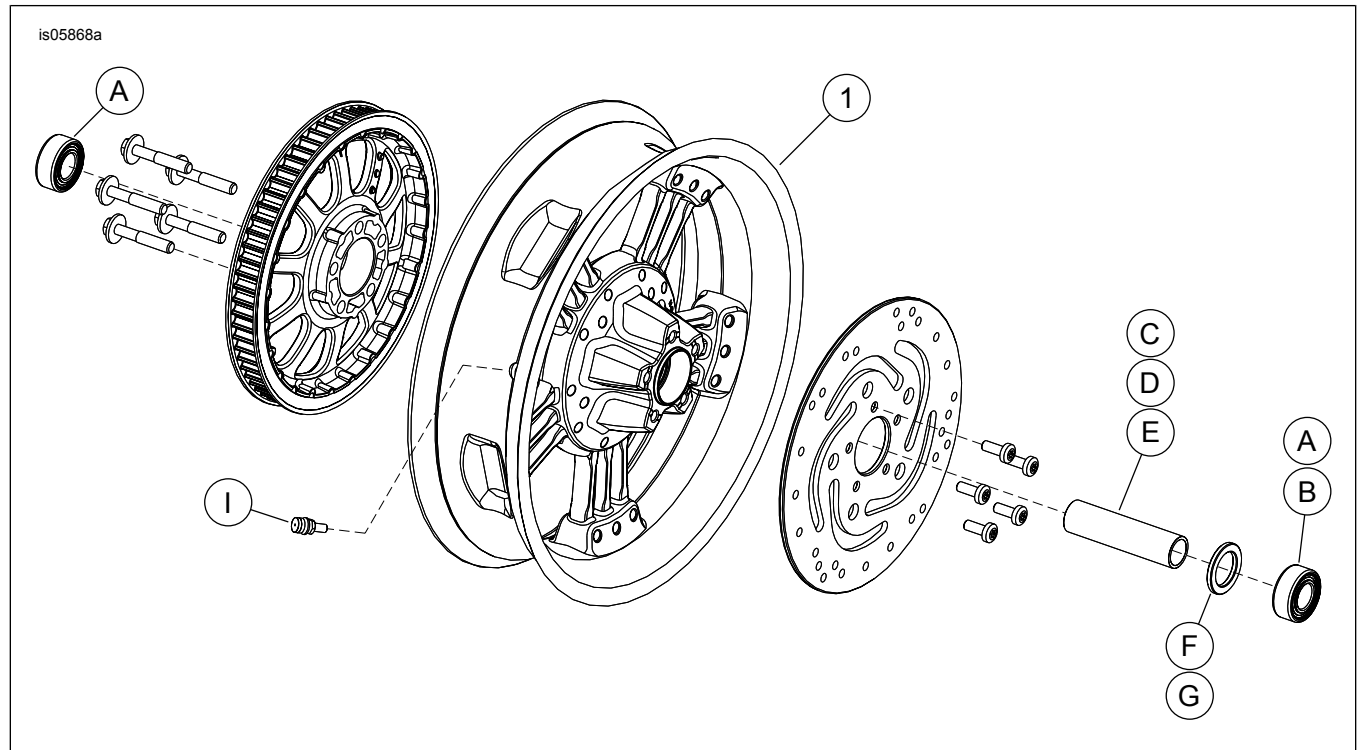

Figure 1. Service Parts: Rear Magnum 5 Wheel (17-inch shown)
These kits include the custom wheel only. See Figure 1. and Table 2.
2. See Figure 1. Install valve stem assembly (I) on wheel following the instructions in the appropriate service manual.